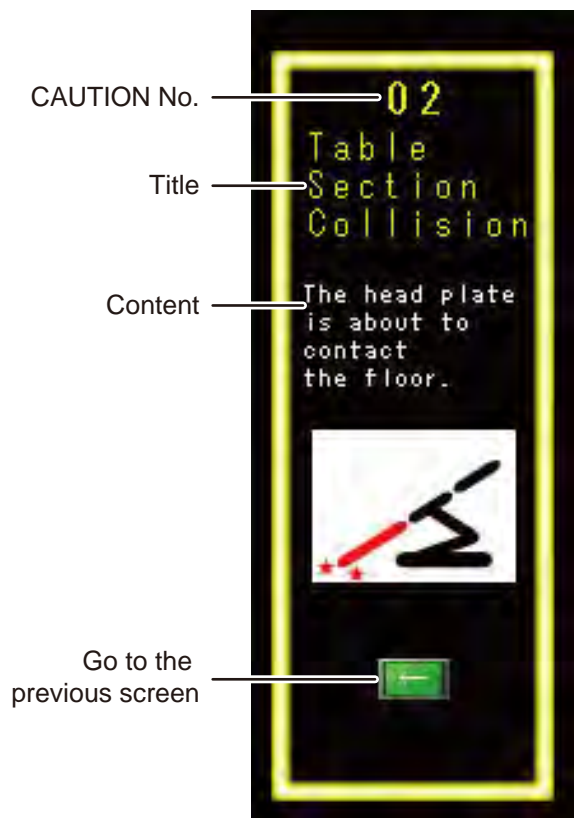
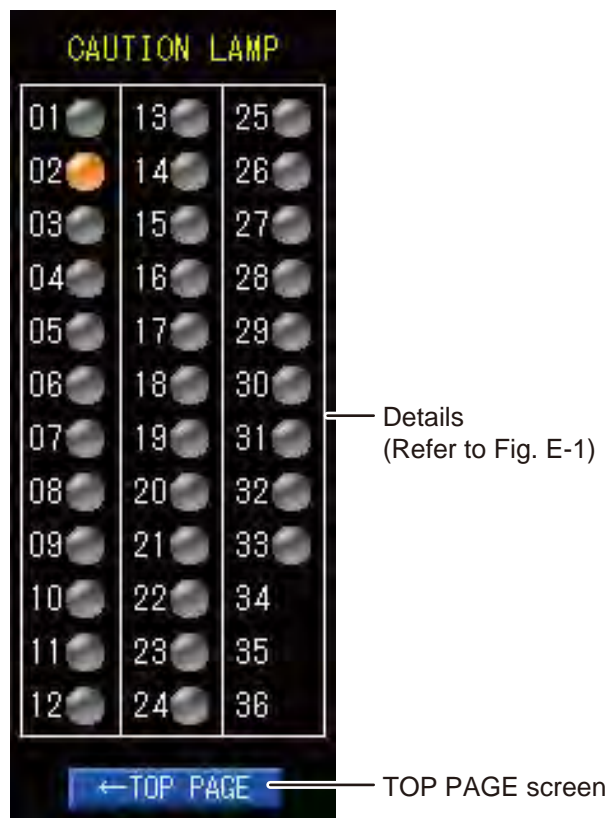

Fig. E-1
Fig. E-2
- To prevent damages, the operating table may stop during operation and a caution/warning screen such as in Fig. E-1 appears on the touch panel. For specific recovery procedures after the operating table stopped, refer to Page 73.
- Fig. E-2 appears, if you click CAUTION in Fig. A while any caution or warning has occurred. When one caution/ warning occurred, the screen of Fig.E-1 appears.